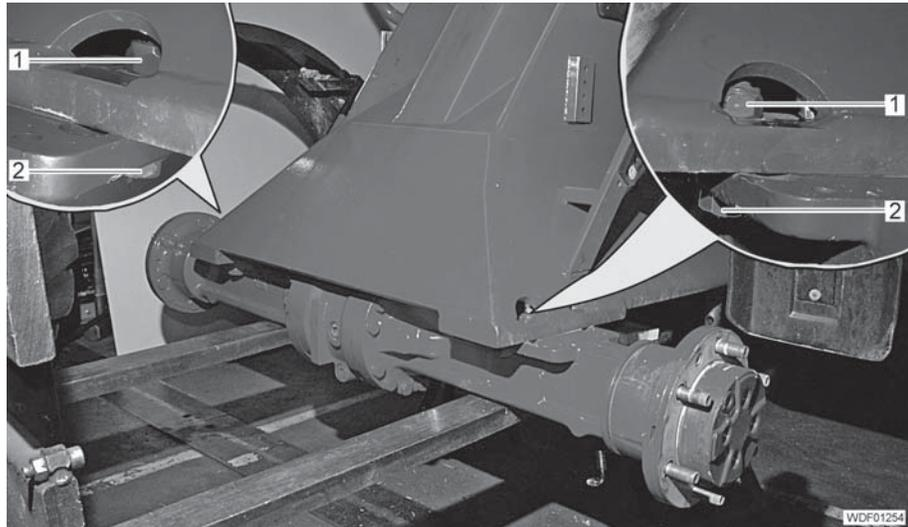

Fig. 241 Front axle support
- Support the front axle by suitable means (e.g. a forklift truck) (Fig. 241).
- Unscrew the 4 nuts (Fig. 241,1).